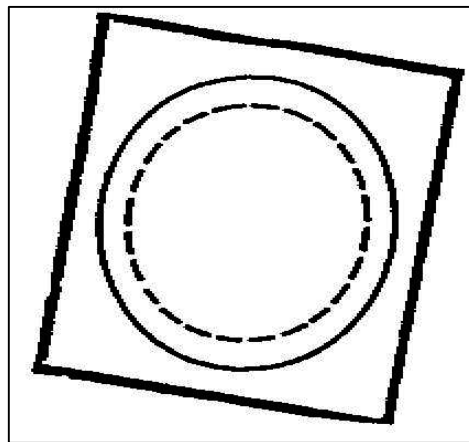
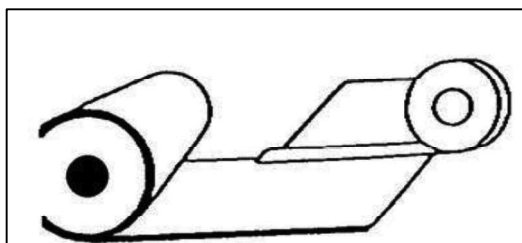

Figure B2.3
Figure B2.5
- 3.3.5.2. For larger pipes, cut out a circular aluminium foil disc slightly larger than the diameter and shape it to the inside pipe circumference. (A small hole may be punched in the paper to ensure complete evacuation of air when purging) (Refer Figure B2.3).
- 3.3.5.4. For pipes larger than 508 mm diameter, simply splice two sheets of water soluble paper together with water soluble tape as per Figure B2.5 and repeat procedure as shown in Figure B2.3 and B2.4 above.